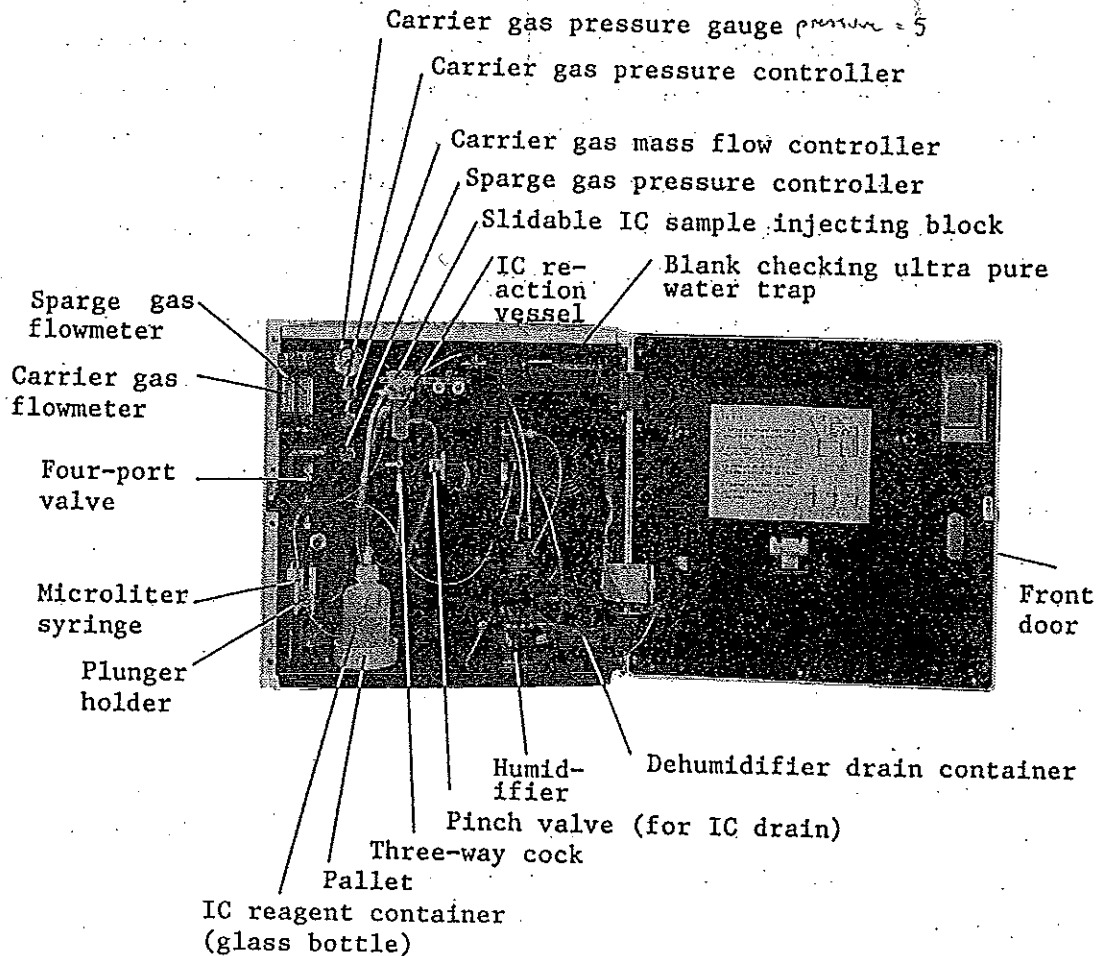

Fig. 4.1 Front View of the TOC-5000 Interior
- 2) Cap the drain pot and fix it in a specified position (See Fig. 4.1.) with fixing band.